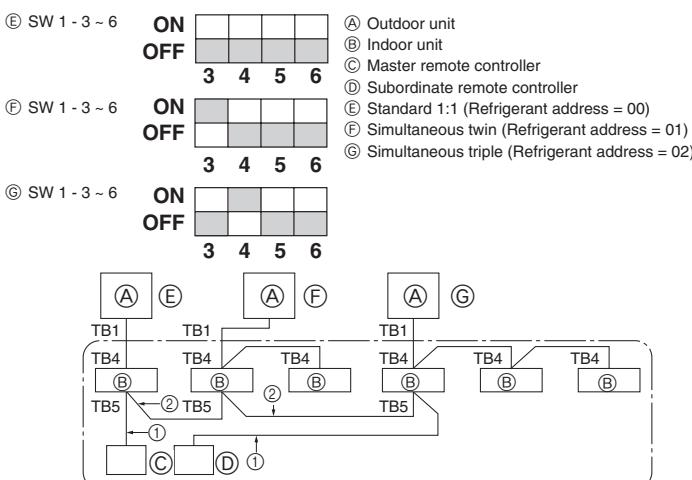

Fig. 9-1
① Supply power (circuit breaker).
- ② After the gas stop valve is closed, set the SWP switch on the control board of the outdoor unit to ON. The compressor (outdoor unit) and ventilators (indoor and outdoor units) start operating and refrigerant collecting operation begins. LED1 and LED2 on the control board of the outdoor unit are lit.
③ Because the unit automatically stops in about two to three minutes after the refrigerant collecting operation (LED1 and LED2 are lit), be sure to quickly close the gas stop valve. When LED1 and LED2 are lit and the outdoor unit is stopped, open the liquid stop valve completely, and then repeat step ② after three minutes have passed.
- ④ Turn off the power supply (circuit breaker).
9. System control (Fig. 9-1)